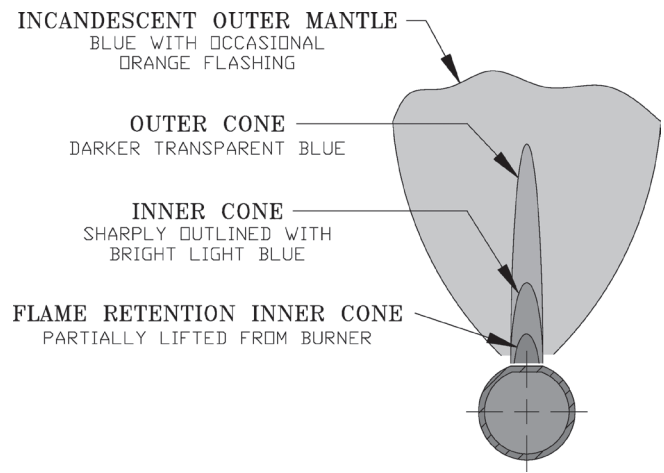

Figure 40: 1 Inch Main Burner flame
- K. Check main burner flame.** See Figures 40. Flame should have clearly defined inner cone with no yellow